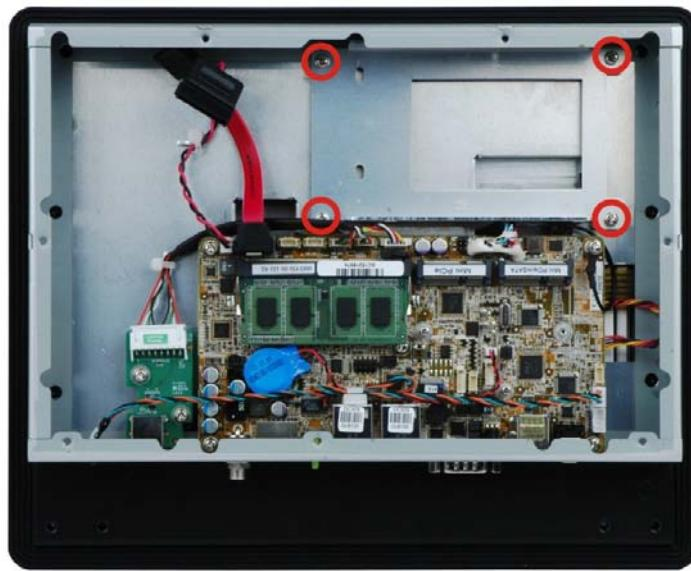

Figure 3-5: PPC-F10B-BT HDD Bracket Retention Screws
Step 2: Remove the HDD bracket from the PPC-F10B-BT. The HDD bracket is secured on the panel PC with four retention screws (**Figure 3-5**). Remove the four retention screws and lift the bracket off the panel PC.